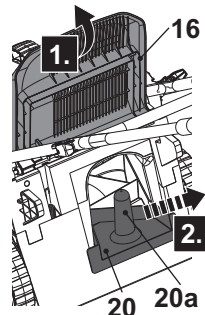

Fig. 15
2. Lift the handle (20a) to disengage the mulching insert (20) from the rear discharge chute slots (19b), then remove the mulching insert (20) (Fig. 15).